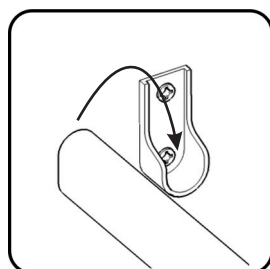

Figure 6
Place Rod (I) into position. (See Figure 6)